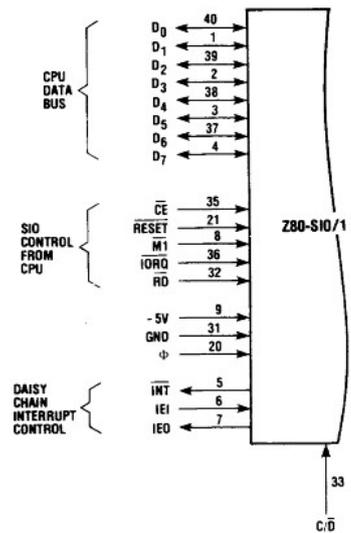

Figure 3.
- Z80-SIO/1 sacrifices DTRB and keeps TxCB, RxCB and SYNCB (Fig. 3).